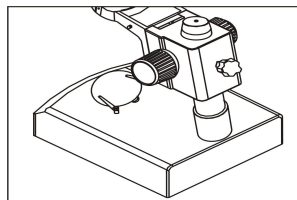

Fig. 2
2) The suitable position of the tightness can make the adjustment more comfortable and prevent the focusing bracket from slipping down by its weight during the observation. (Fig. 2)